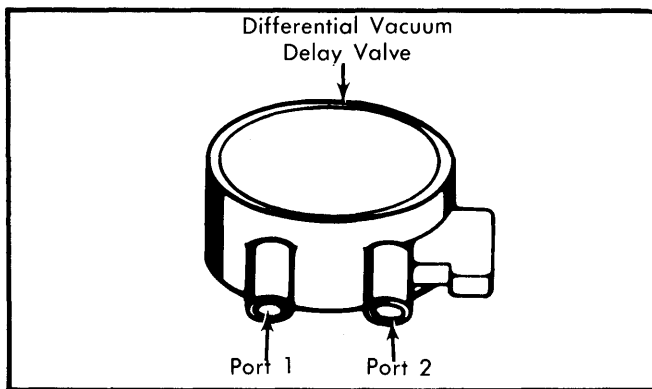

Fig. 1 Location and Identification of Ports on Differential Vacuum Delay Valve
1) Using a "T" fitting, connect a vacuum gauge in vacuum line from valve to ILC. Connect a vacuum pump to port 1 of valve. Apply 17.8 in. Hg vacuum to port 1 and observe gauge. Gauge should read 16.9 in. Hg vacuum within 6-9 seconds. See Fig. 1.